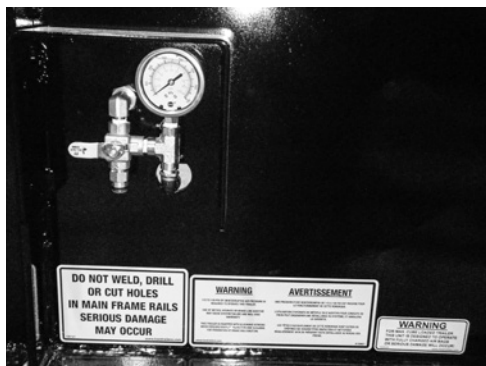

Figure 39
- Carefully inspect the hangers and the hanger wear pads and replace if wearing thin. (Figure 39)
All air control systems are equipped with a dump valve that allows the operator to exhaust the air from the system in the following situations (Figure 39):